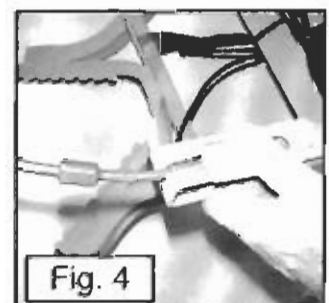

Fig. 4
**D. YOU MUST** rotate the hatch cover back over the bracket so that it snaps and locks into place, as shown in **Figure 4**. **IMPORTANT:** If the hatch cover does not lock and snap into place, squeeze it together while in the open position to assure it remains snapped in place when rotated over the bracket.